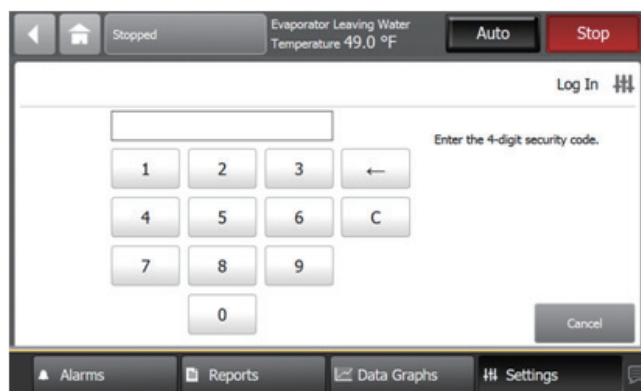

Figure 52. Log in screen
1. Touch the Log in button. The Log in screen appears (Figure 52).